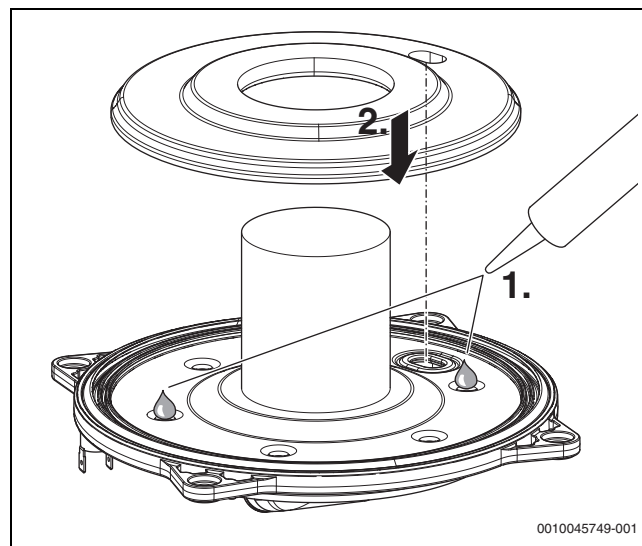

Fig. 100 Apply silicone adhesive and fit new insulation
- ▶ Apply temperature-resistant silicone adhesive (high-temperature resistant sealant (>250 °C)) to the two recesses as shown in → Fig. 100.